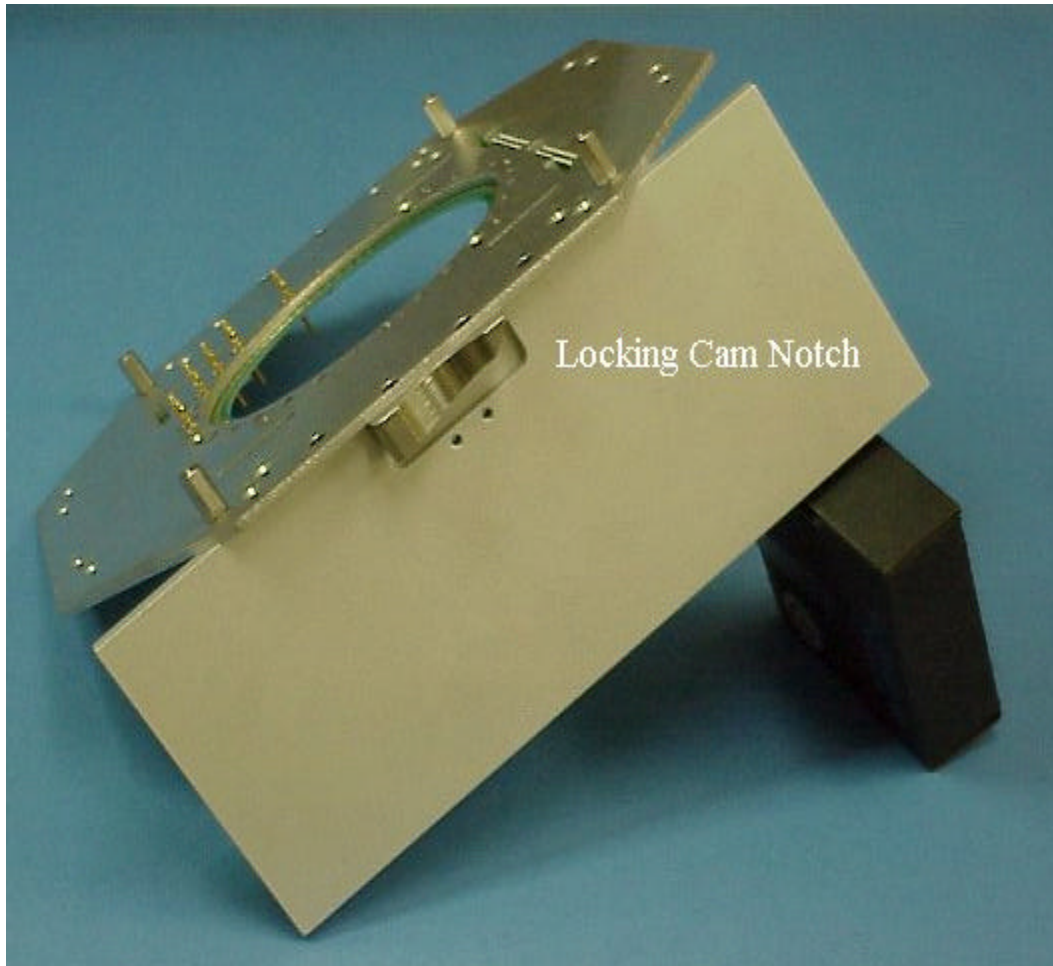

Figure 1
1. Install the two **fixture sides** as shown in Figure 1. Notice the **locking cam notch** orientation.